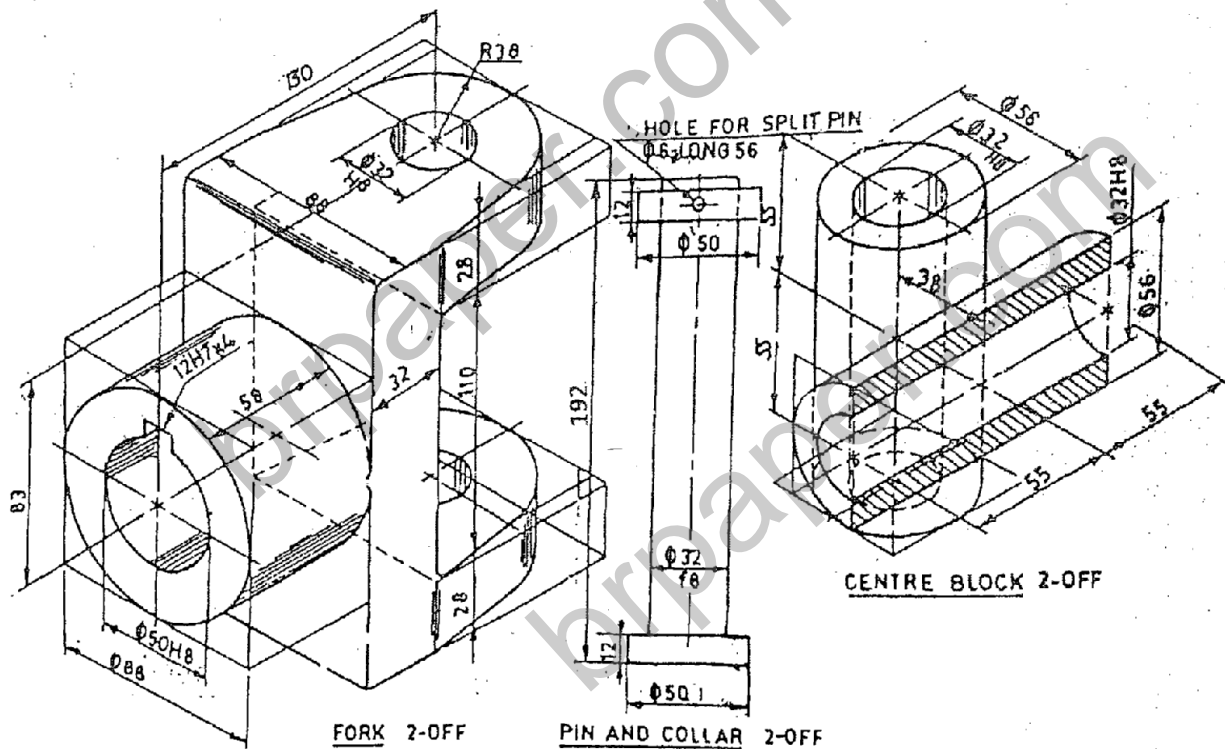

Fig 1: Universal Coupling
6. Figure 1 show the detail of a universal coupling. Assemble the given components and draw the front view (Lower half in section) and top view of assembly.